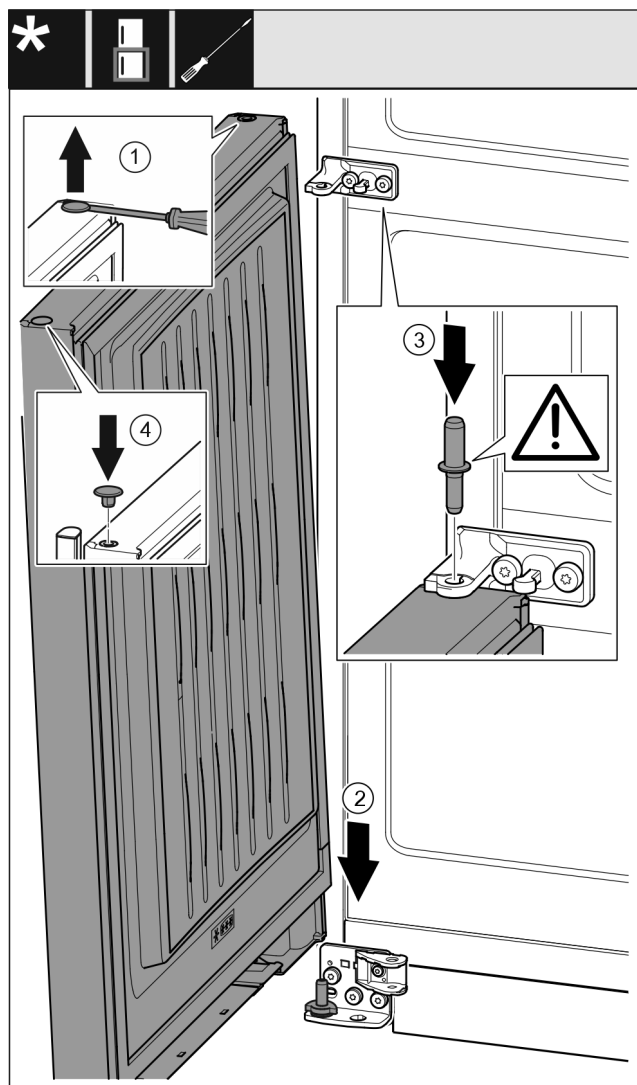

Fig. 35
- Use a slotted screwdriver to lift the plug Fig. 35 (1) carefully and pull it out.
- Lower the door Fig. 35 (2) onto the bottom bearing bolt.
- Insert the centre bearing bolt Fig. 35 (3) through the centre bearing block in the lower door. Ensure that the latching cam is pointing towards the rear.
- Re-insert the plug Fig. 35 (4) on the other door side.